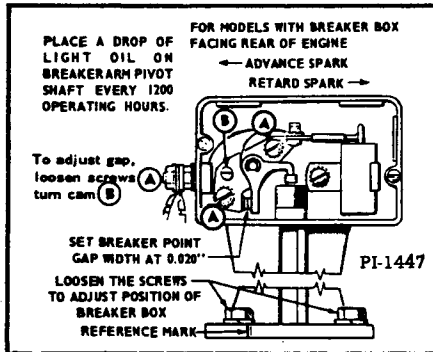

Fig. 274 Ignition Timing
VALVE SYSTEM (Figure 274)
3. Adjust the ignition breaker point gap width to .020" at full separation (Figure 274).